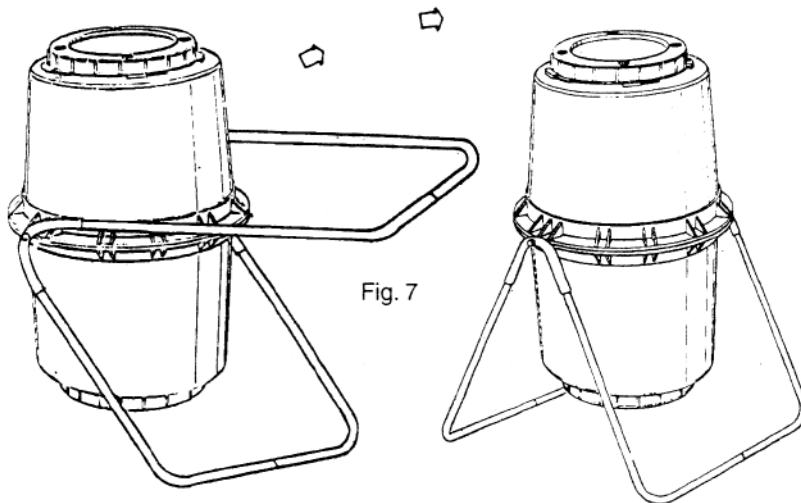

Fig. 7
7. Lift Tumbleweed Compost Maker onto the stand, as shown in Fig.7.